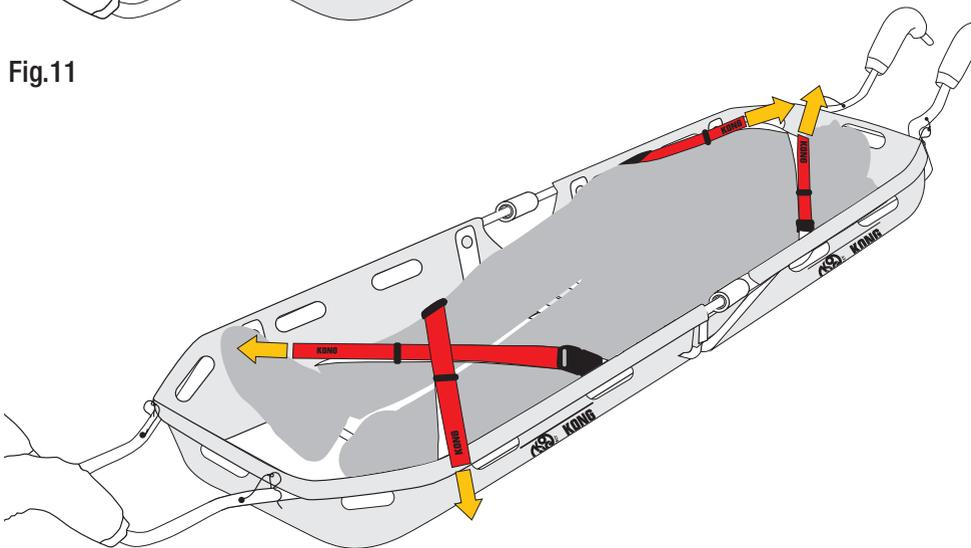

Fig.12
- Lay the patient in the stretcher, hook on the buckles and tension the straps until they secure the patient (Fig. 12).